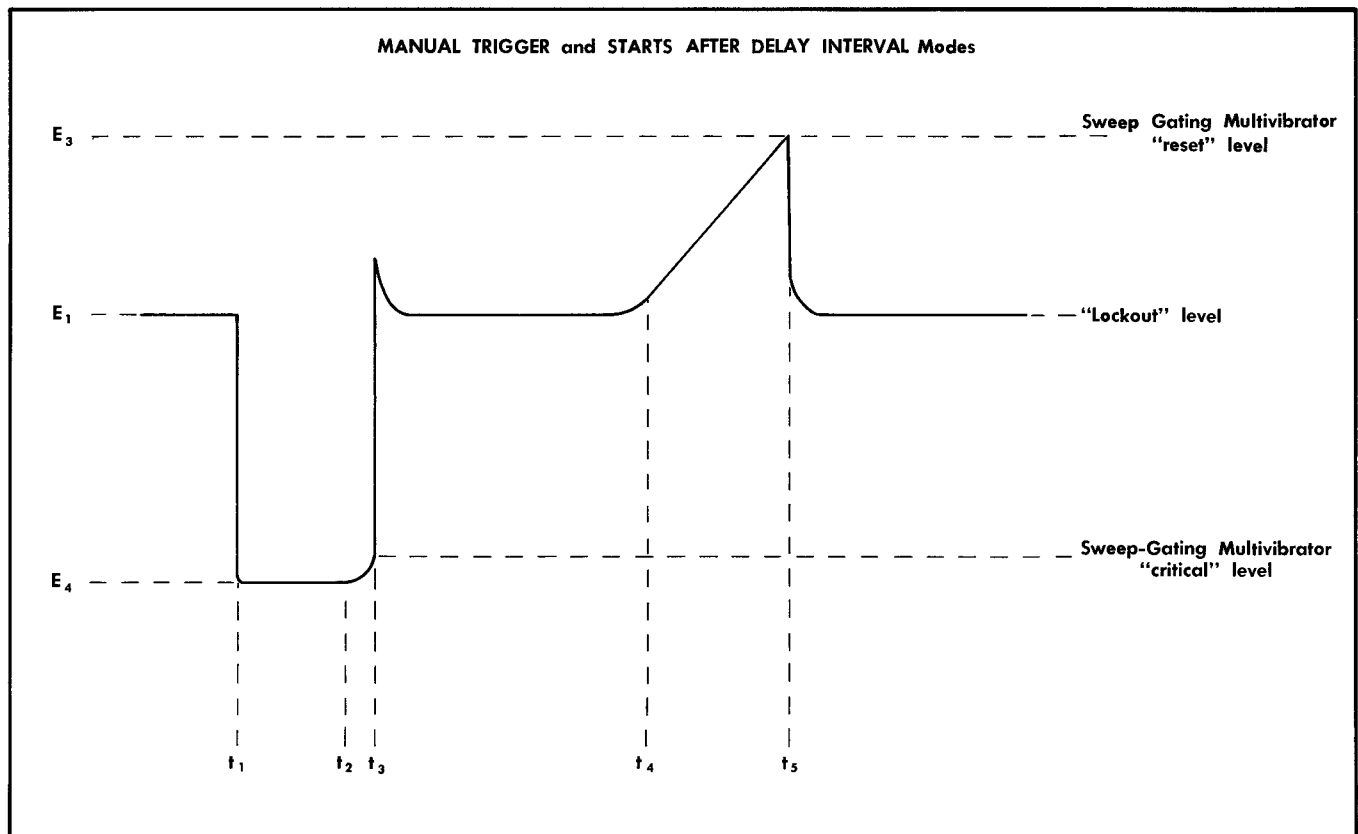

Fig. 3-11. Signal at the grid of V235A.
2. When the voltage drops at  $t_0$  (see Fig. 3-11), it drops to a more negative level ( $E_4$ ) than in the Single Sweep mode. This level is below the "trip" level of the Sweep-Gating Multivibrator. Hence, the sawtooth cycle begins immediately without waiting for a pulse from the Time Base Trigger circuit. This occurs because the 'B' MODE switch by-passes the STABILITY control and causes V225A to conduct at the lower level.